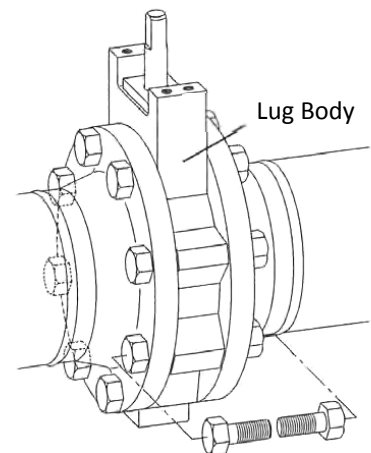

Figure 11
3. Lug body valves should be positioned between the flanges with gaskets properly centered and then the capscrews inserted (Figure 11).